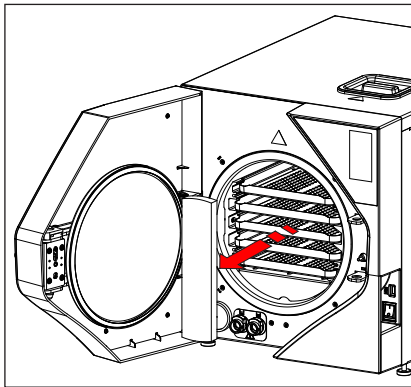

fig.9
- Remove the plastic protection inside the chamber (Fig.9);